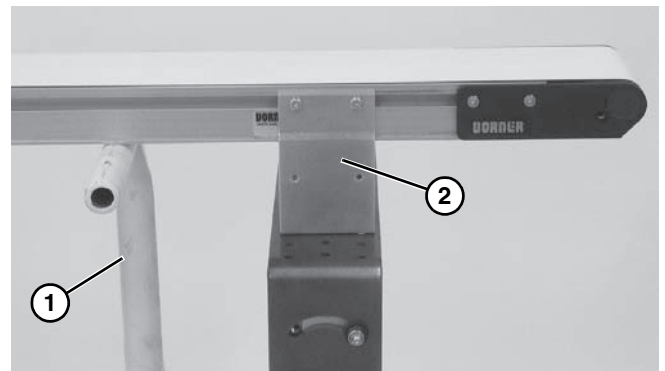

Figure 30
8. Place temporary support stands (**Figure 30, item 1**) at both ends of the conveyor.
9. Remove mounting brackets (**Figure 30, item 2**) from one side of conveyor. (Reverse steps 3 & 4 of “Mounting Brackets” on page 7.)